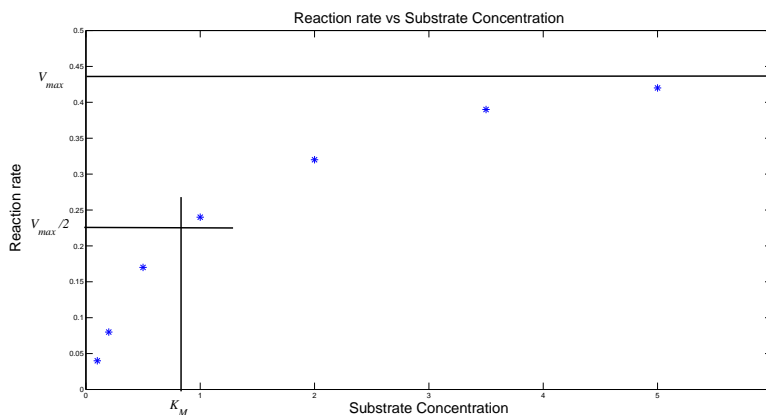

Figure 1.1 Graphical estimation of V_{max} and K_M
- 1.3** The plot indicates that the relationship between the reaction rate and the substrate concentration goes to saturation in a M-M-like behavior, see Fig. 1.1. V_{max} and K_m are estimated as shown in the plot.